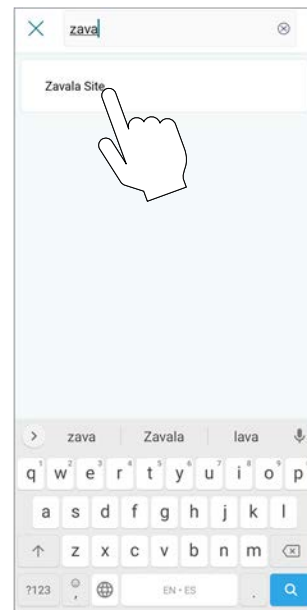

Figure 135. Choose Organization
4. "Choose organization" screen will be displayed and it will show all the available organizations. Navigate the sub Organization list or use the search tool to locate desired organization. See **Figure 135**.